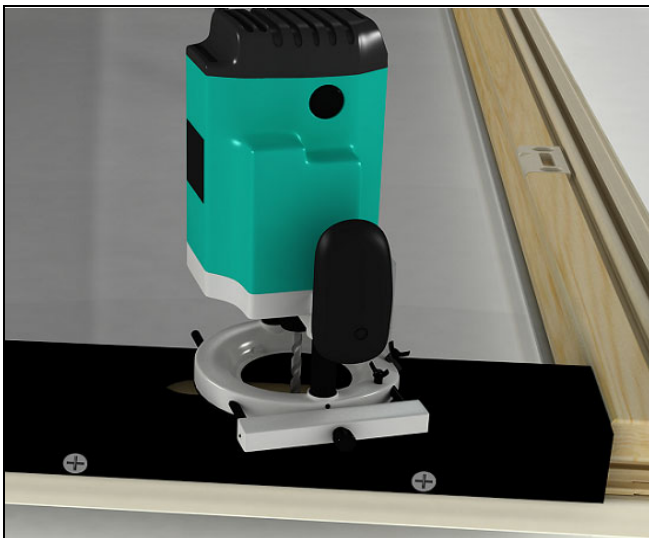

Figure 7
3. Set router depth to 13/16" and route. See Figure 7.